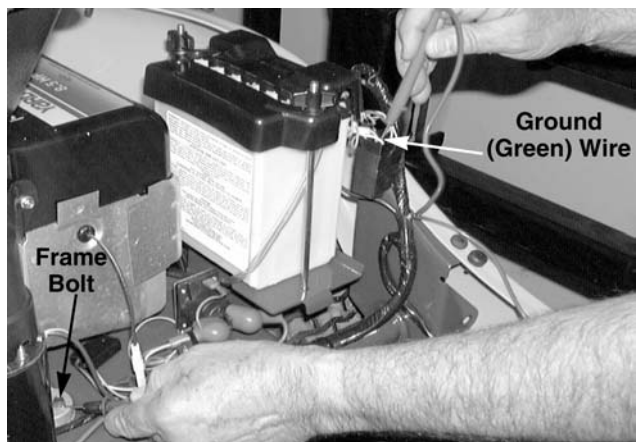

Figure 8-94.
38. Locate the seat switch and remove both female harness connectors. See Figure 8-94.